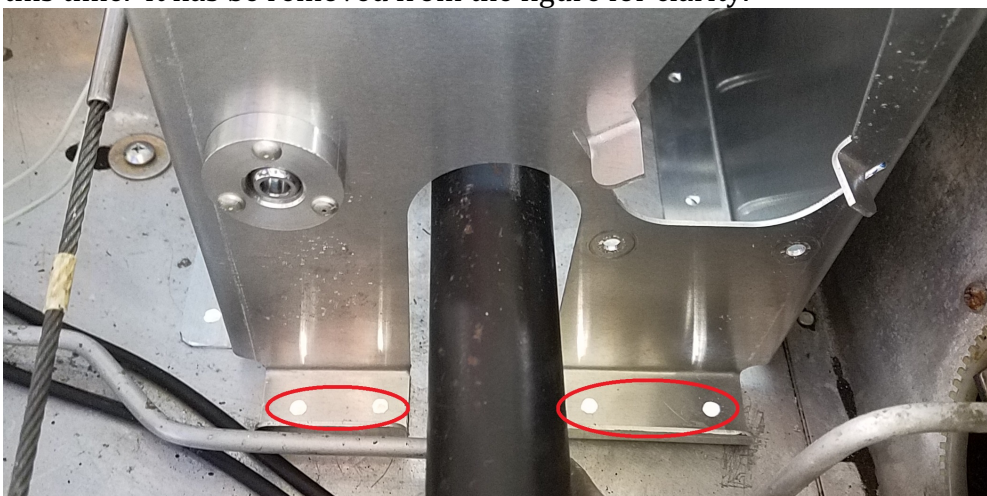

Figure 2-10
- 1.16. Drill 4 #18 holes through the lower left flange of the pitch bracket assembly (P/N 7200-103) and lower fuselage in the areas shown in Figure 2-10. Note that the PA-32 bellcrank (P/N 7200-108) should be installed at this time. It has been removed from the figure for clarity.